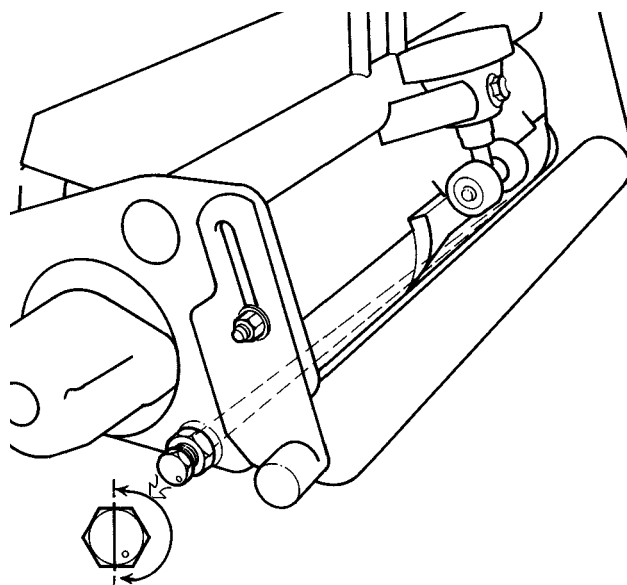

**Figure 15**
1. Remove the mower from the traction unit and position it on a level work surface. Make sure there is no reel contact by turning the bedknife adjustment knob counterclockwise (Fig. 15).
2. On either end of the front side of the reel, insert a long strip of newspaper between the reel and bedknife. While slowly rotating the reel forward, turn the bedknife adjusting knob (Fig. 15) clockwise, one click at a time, until the paper is pinched lightly, which results in a slight drag when paper is pulled.